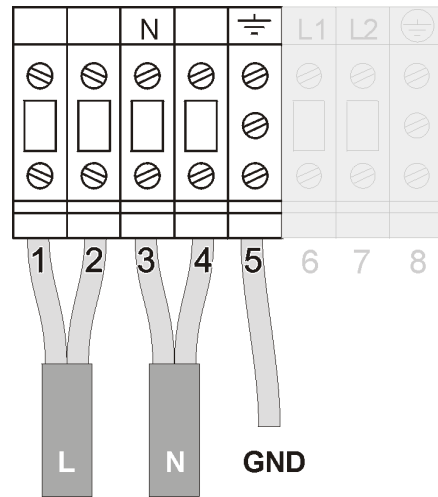

Figure 15a. Output cable splitting for 10kVA 120V 2-wire
10. Connect the ground wire to terminal 5. Ground connection is essential! See figure 15a.